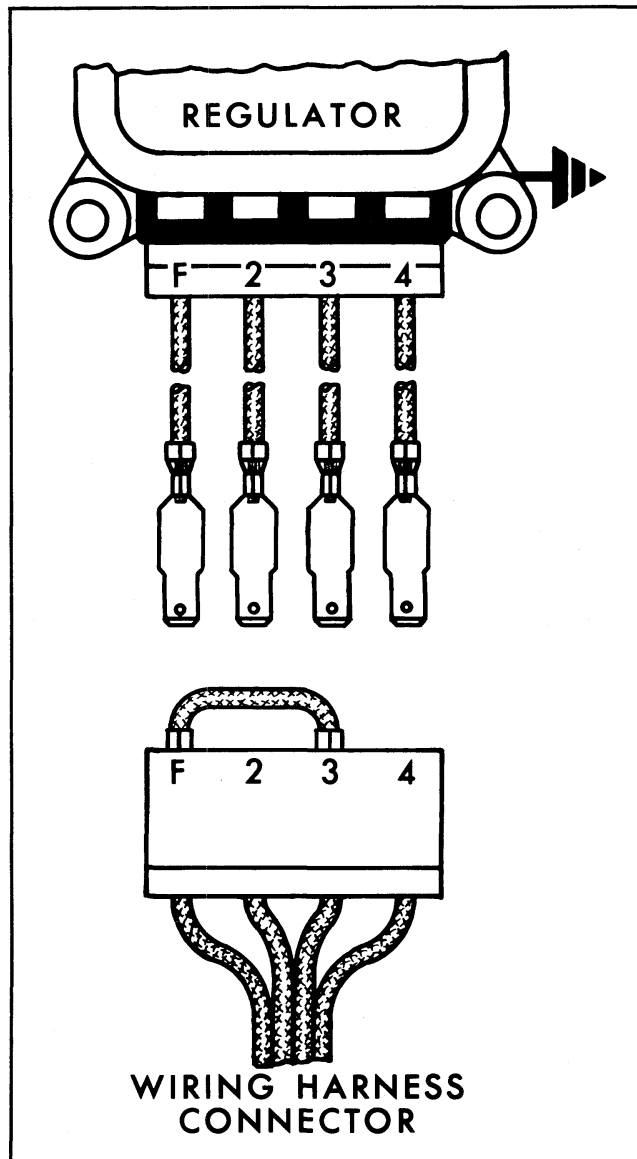

Fig. 11-33 Checking Generator Output
b. Make connections to the adapter as shown in Fig. 11-33.